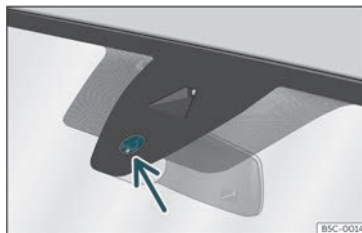

Fig. 96 Rain sensor sensitive surface
Possible causes of faults and mistaken readings on the sensitive surface >>> Fig. 96 of the rain sensor include:
- Regularly clean the sensitive surface of the rain sensor»» Fig. 96 (arrow) and check for possible damage to the wiper blades.